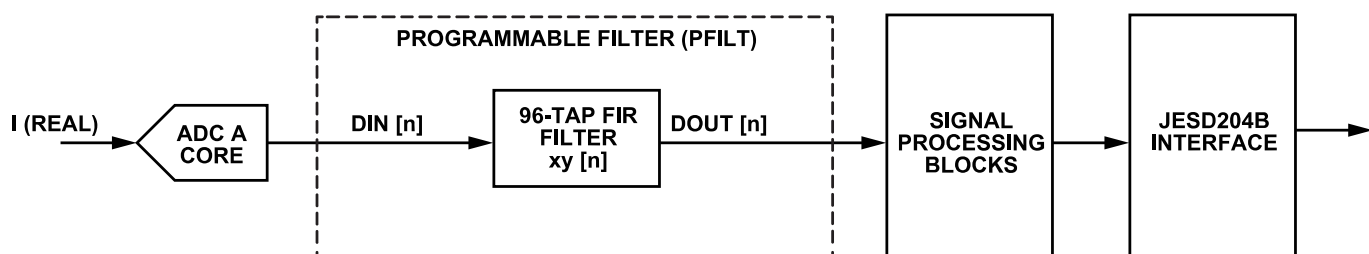

Figure 79. Real 96-Tap Filter Configuration
- Real 96-tap filter (see Figure 79)